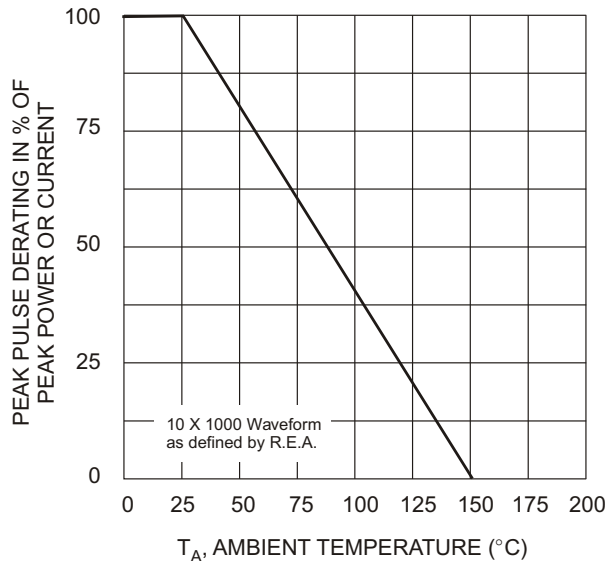
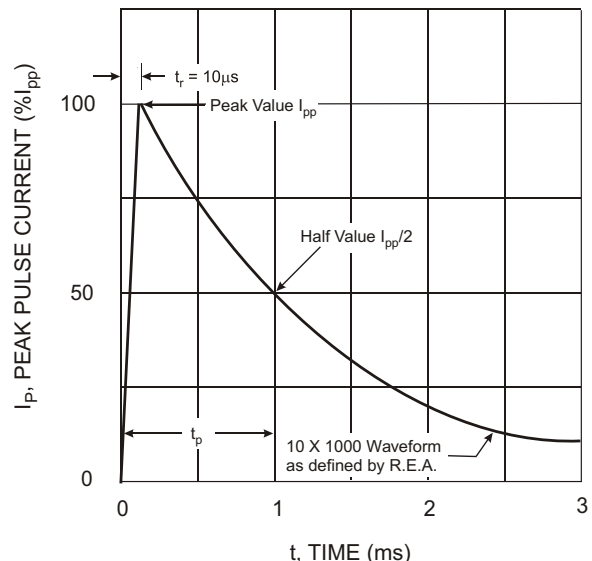

Fig. 1 Pulse Derating Curve
Fig. 2 Pulse Waveform
- Non-repetitive current pulse per Figure 2 and derate above T_A = 25 C per Figure 1.